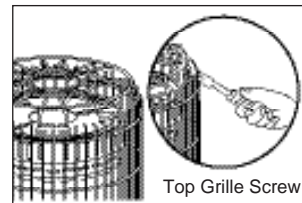

Fig.7
**E) INSTALLING TOP GUARD:(Fig. 7)**